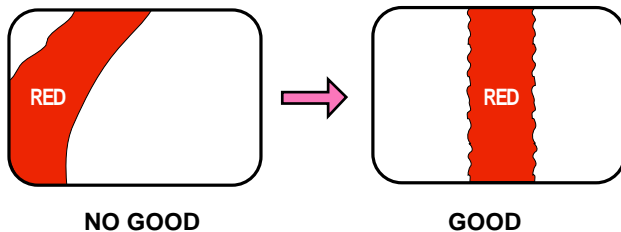

Fig. 4-7
- Adjust the purity magnet so that the red area comes to the center on the CRT screen as shown in Fig. 4-7.